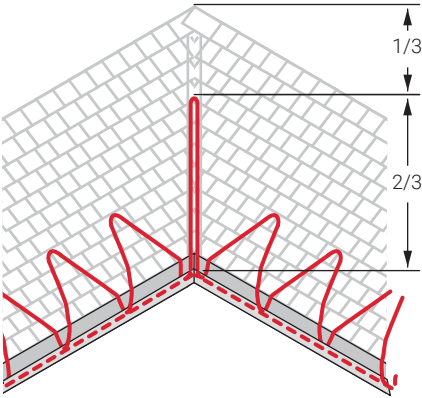

Figure 11: Layout for valley
Ice dams may form at the valley on a roof where two different slopes meet. To maintain a continuous path for melt water, run the heating cable up and down the valley as shown in Figures 11 and 12. Additional heating cable may be needed for the roof surface, gutters, and downspouts.
- Trace two-thirds of the way up each valley with a double run of heating cable (loop up and back once) as shown in Figure 11 taking care not to damage the heating cable. Secure cable in place using roof clips available from the manufacturer.